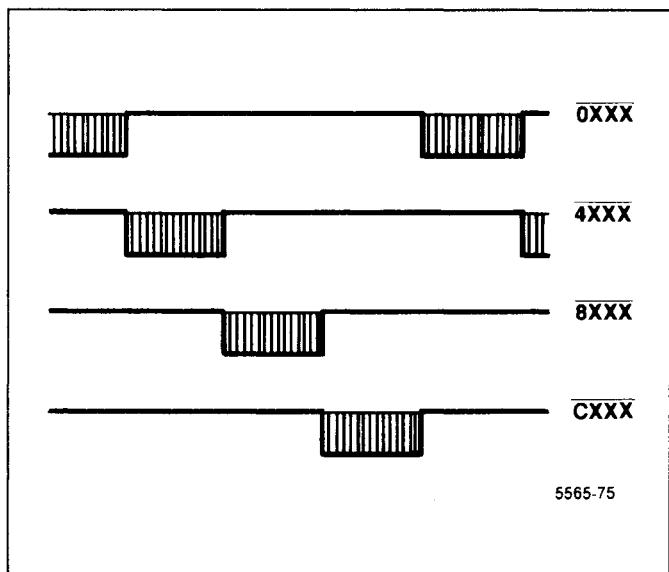

Figure 6-28. Four main block select outputs of address decoder U2045.
**Memory Address Decoders** — Address decoder U2045 on the Memory board sets its outputs low in turn to access blocks of memory space. The four main block-select outputs are shown in Figure 6-28.